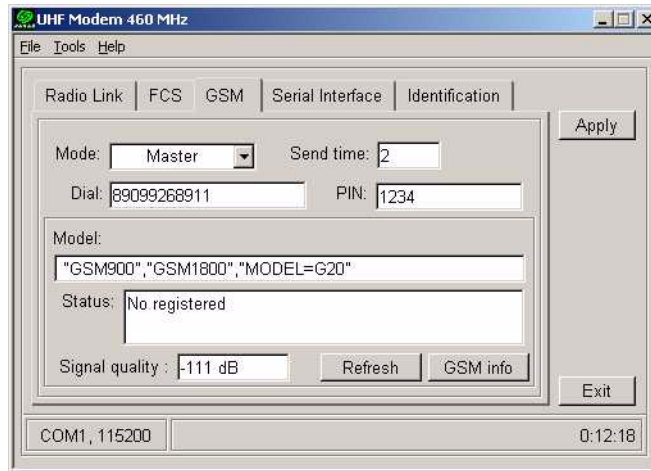

Figure 2-28. GSM Tab
2. Click the **GSM** tab (Figure 2-28 on page 2-37).